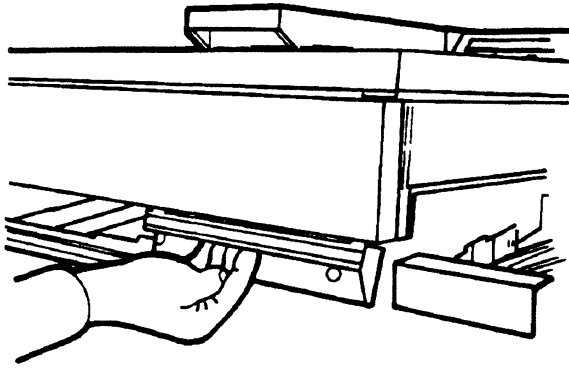

Figure 2-36 **Paper path access handle**
1. Pull the paper path access handle and lift up (as shown in Figure 2-36) to open the printer.